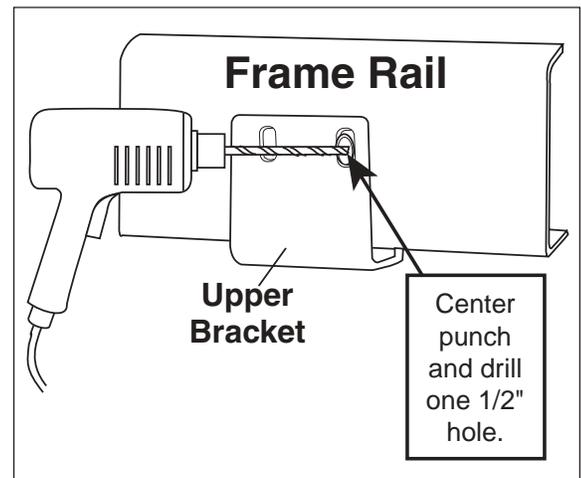

Figure 3
2. Put the upper bracket into position on the frame rail and drill one 1/2" hole in the side of the frame rail (Figure 3).